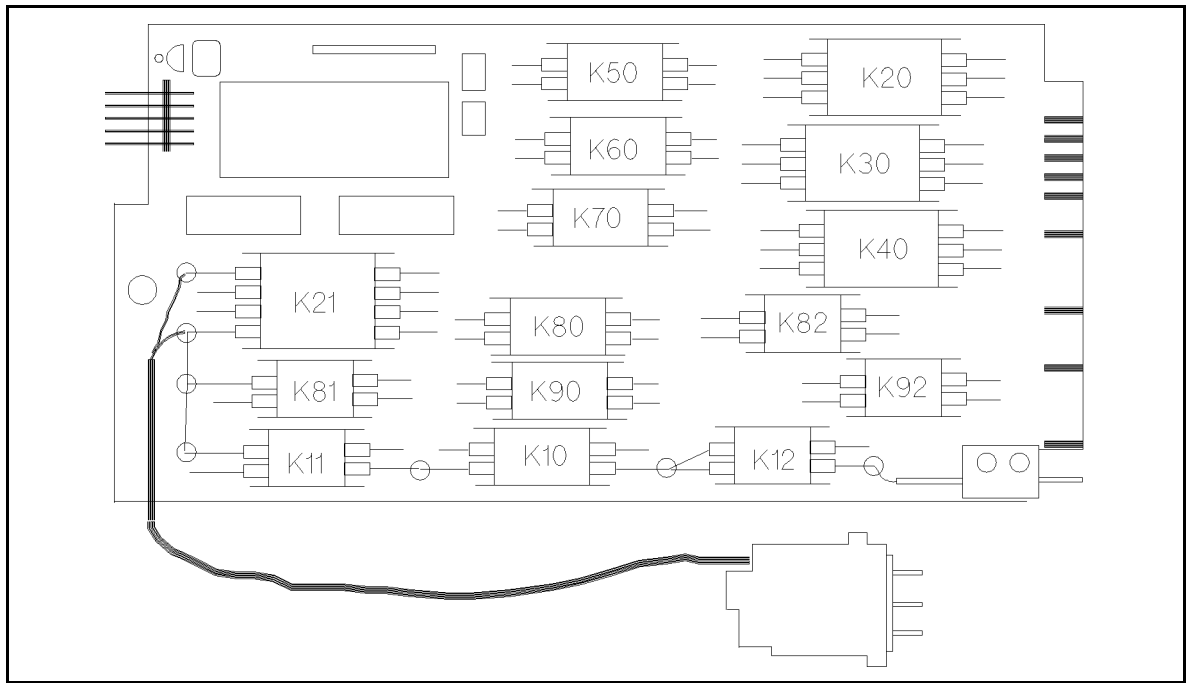
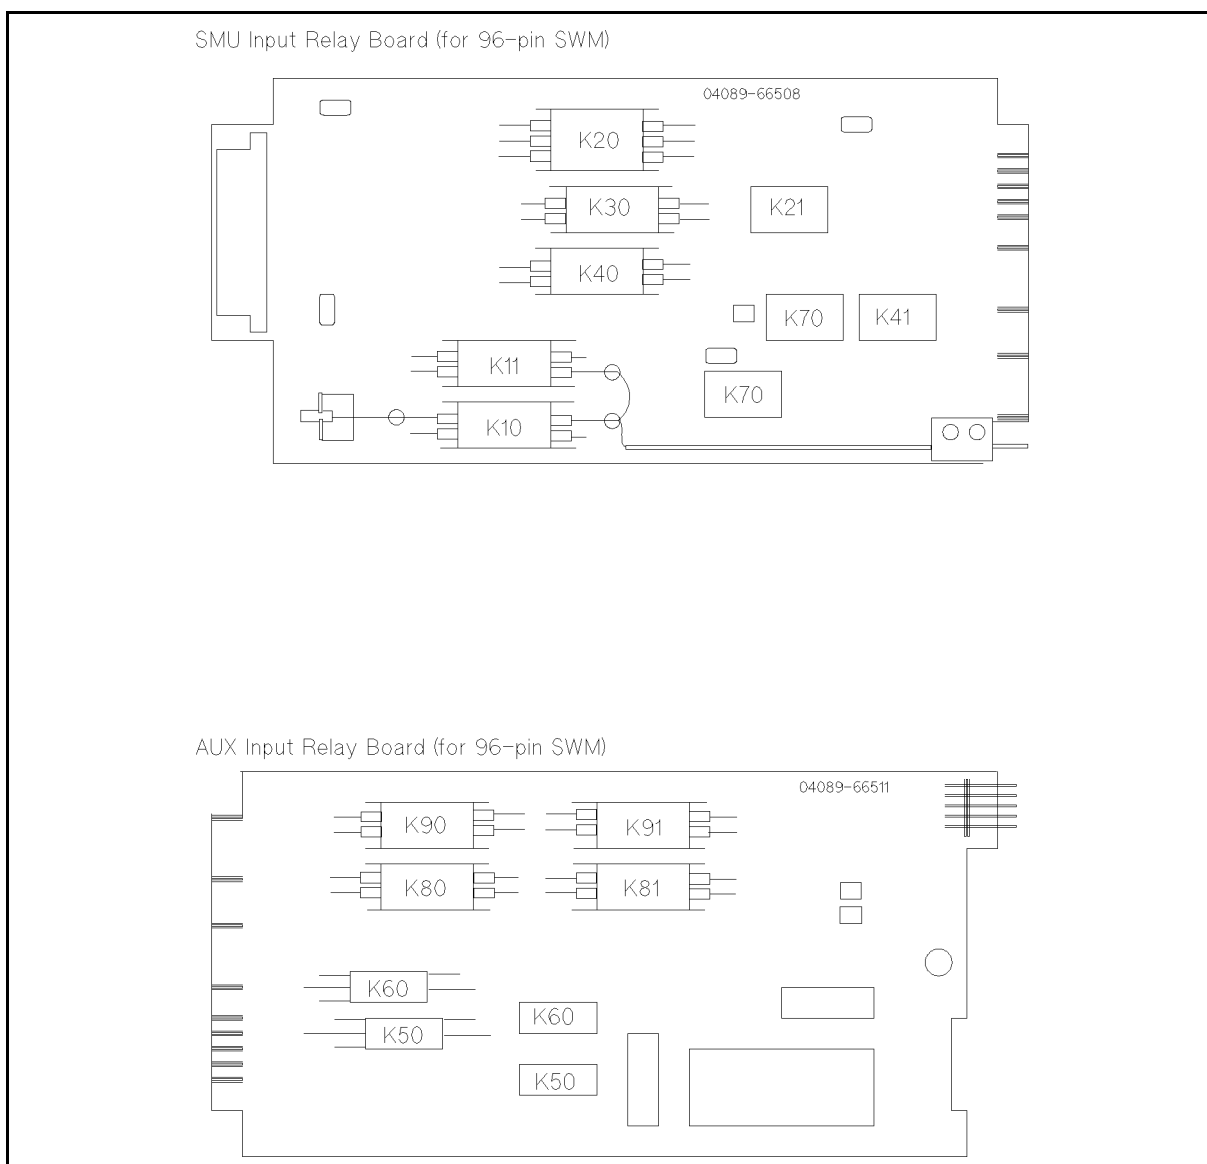

Figure 4-24. Pin Board Relay Locations
Figure 4-25. Input Board Relay Locations (96-pin SWMs)
3. Lightly tap the indicated relay with your finger two or three times. Figure 4-24 shows pin board relay locations, and Figure 4-25 shows SMU input relay board and AUX input relay board relay locations for 96-pin SWMs.